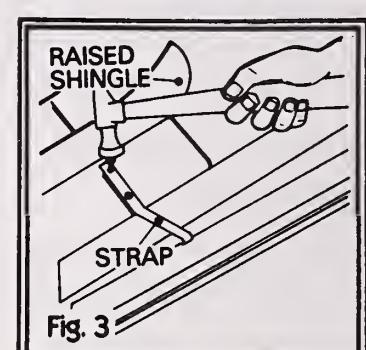
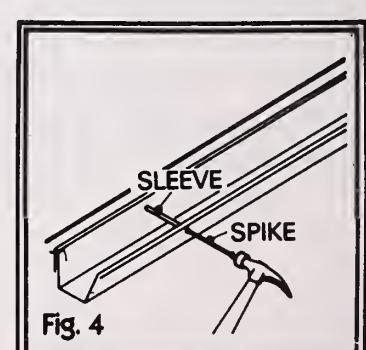

Fig. 3
Fig. 4
4. Check all gutter hangers for tightness. If the hanger is a "strap" type and is loose, renail it with a galvanized nail or tighten it with a galvanized screw. Broken or damaged straps should be replaced (fig. 3). If the hanger is a "sleeve and spike" type and is loose, renail it with a galvanized or aluminum spike (fig. 4).
13. Place the sleeve in another, adjacent location, at least $\frac{3}{4}$ inch from the old location, raise the gutter, and refasten it to the roof board by nailing a new galvanized spike through the sleeve and into the board (fig. 4).